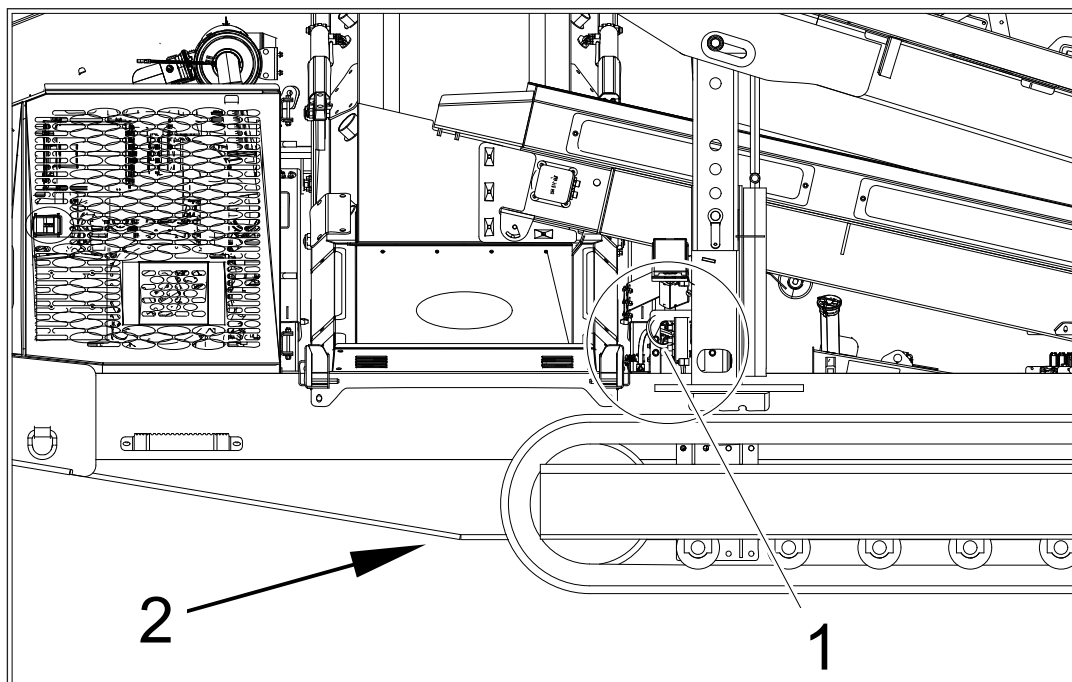

Figure 6.9 - Location of DEF Tank and how to access.
2. Remove all Guards and Covers surrounding the DEF tank see item 1 Figure 6.9.
3. Access to the DEF Fluid Filter under the machine chassis item 2 Figure 6.9.